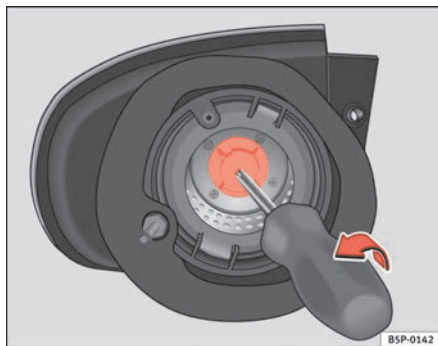

Fig. 188 Indicator lights.
- Pull out the indicator lamp holder using a screw driver in the direction of the arrow ⇒ fig. 188.